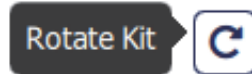

Figure 27 - Rotate Kit Button
4. If the orientation of the controls shown in Monogram Creator does not match the orientation of the Creative Console modules, click the **Rotate Kit** button to re-orient the view. (Figure 27).